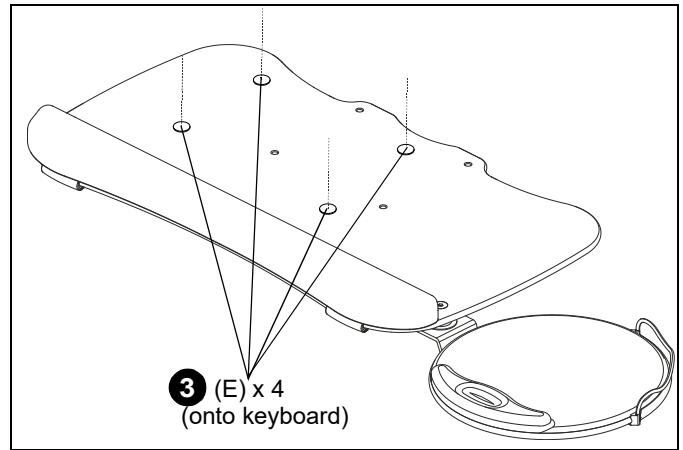

Figure 2
4. Attach four anti-slip pads (E) to underside of keyboard. (See Figure 2)